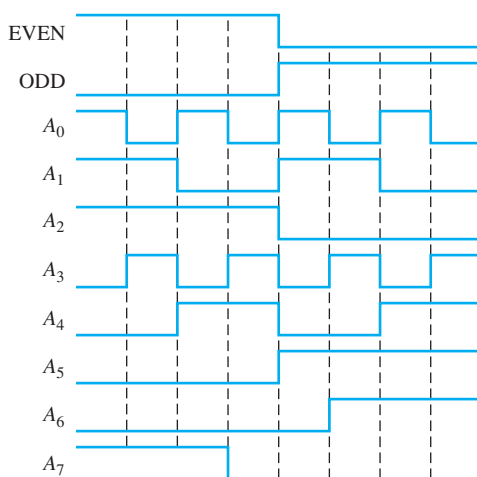

FIGURE 6-83
33. Determine the Σ Even and the Σ Odd outputs of a 74HC280 9-bit parity generator/checker for the inputs in Figure 6-83. Refer to the function table in Figure 6-56.